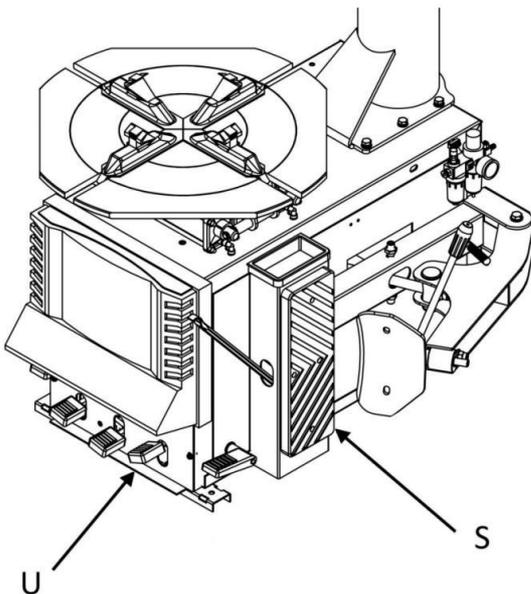
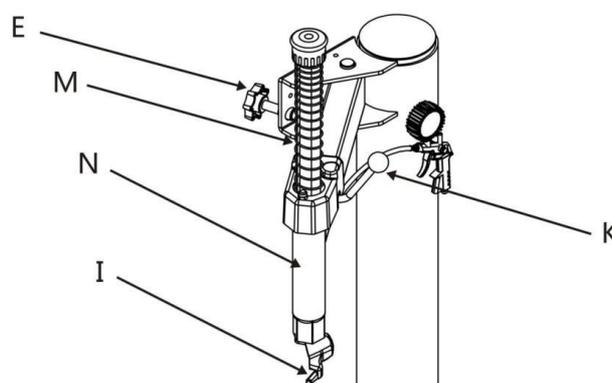

Figure9
Figure 14
- ✧ As shown in Figure 9,10, the tire need to be leaned on the rubber mat which is on the right side of the semi automatic tire changer (S), (Note: it must be very careful to carry out the pressing operation. When the pressure plate is operated, the pressure relief arm will swing rapidly and powerfully, and any object in the range of the pressure arm is dangerous.
- ✧ As shown in Figure 9, step on the pedal (U) and start the tire pressing device. When the tire pressure shovel completed operation or the wheel edge goes away from the rim, release the pedal. Gently rotating the tire, repeat the same operation to the other place of the tire.
- ✧ After pressing tire, the rim edge should be coated with special lubricating fluid, make the position of the pedal (VI) be in parallel with (V2), the tire should be fixed on the clamp (G) , make the clamp lock the rim tightly by stepping on the pedal (V2) (Note: make sure that the rim is locked tightly by the clamps).
- ✧ Lower operating arm (M), until the disassembly head (I) is supported on the rim of the rim, lock it with the lock handle (K). In this process, as shown in figure 8-b, figure 8, the operating arm (M) is locked in a fixed position in the vertical direction, and the head (I) is moved to the top of the rim of the 2-3.5mm. Once the operating arm is locked in the vertical direction, As shown in Figure 14, you must use the left hand wheel (E) which is on the horizontal swing arm (N) to remove the rim of the head (I) (about 2-3.5mm).